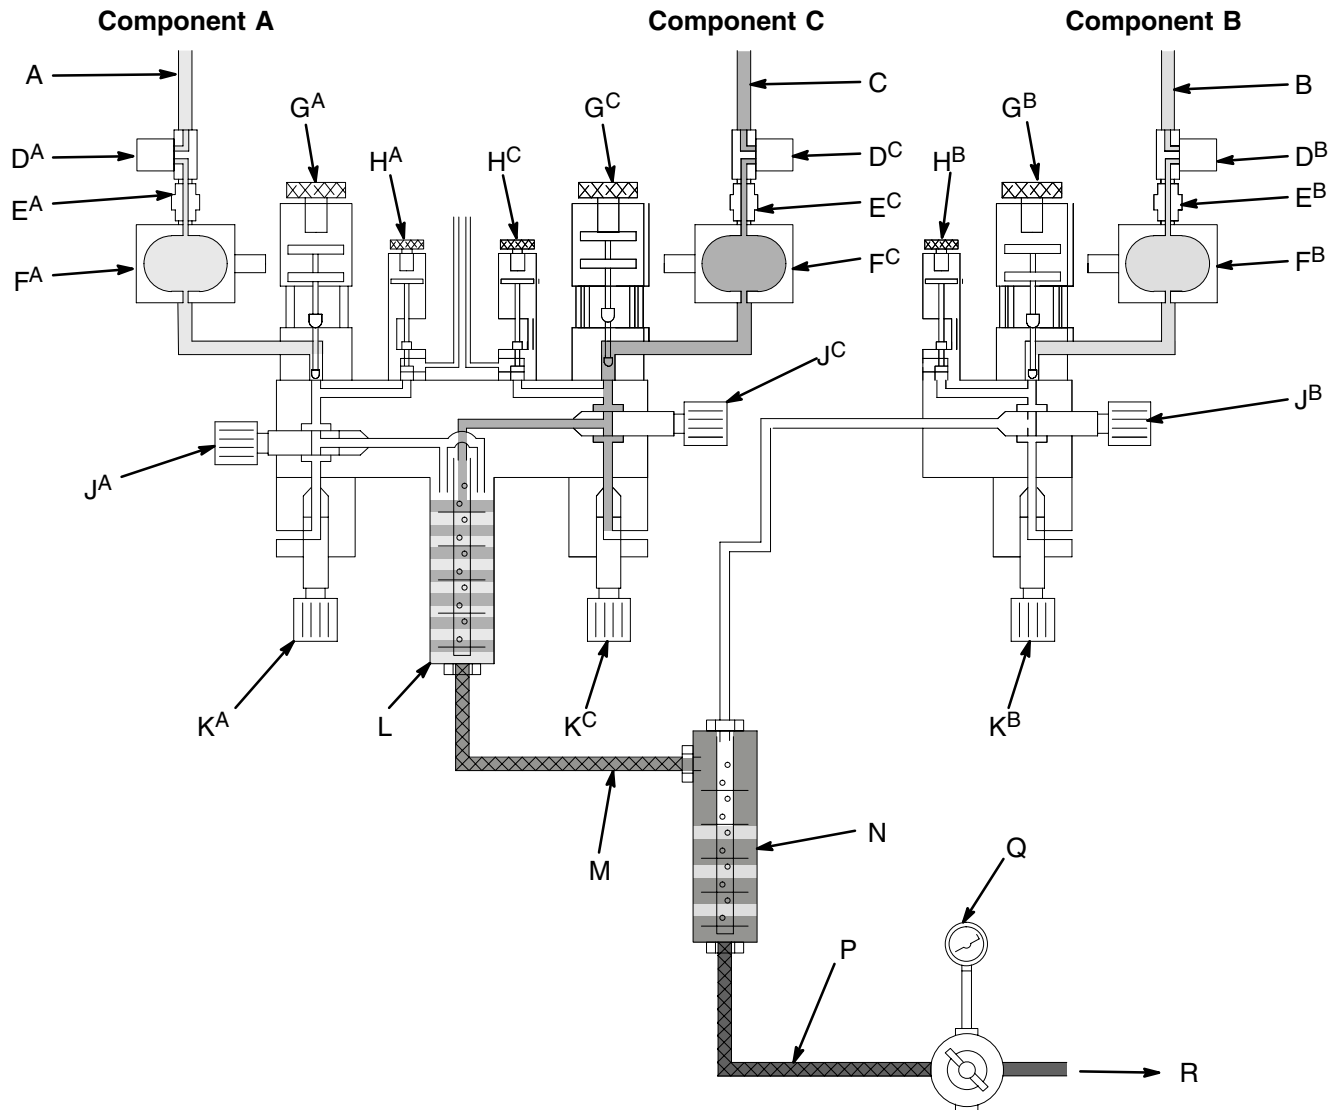

Fig. 5
- The Component C (reducer) dispense valve (G^C) opens and Component C flows into the first integrator chamber. The fluid is lined up proportionately with Components A and B. The Component C dispense valve closes when the target volume for Component C is reached. See Fig. 5.
KEY for Fig. 5